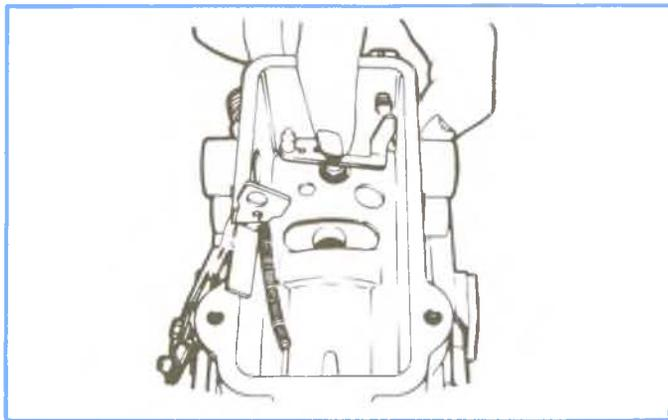

Figure 7-8
- a. Check metering valve for freedom of rotational movement (Figure 7-8).